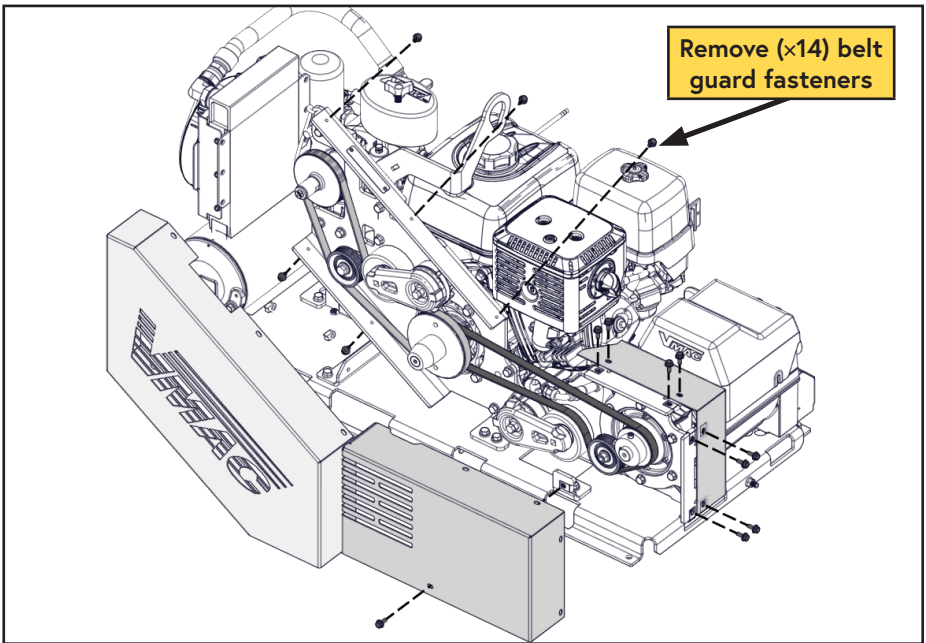

Figure 83 — Remove belt guards
- Remove the belt guard and generator rear cover (Figure 83).